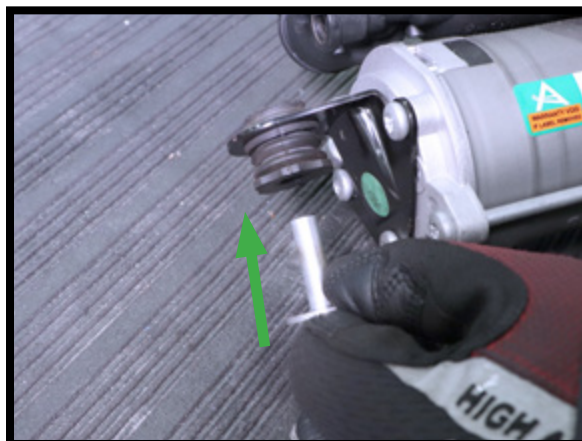

FIGURE 15
2. ALSO PROVIDED IN THE ARNOTT ACCESSORY KIT ARE THREE (3) NEW BOLT ISOLATORS YOU WILL USE DURING INSTALLATION. (FIGURE 15)